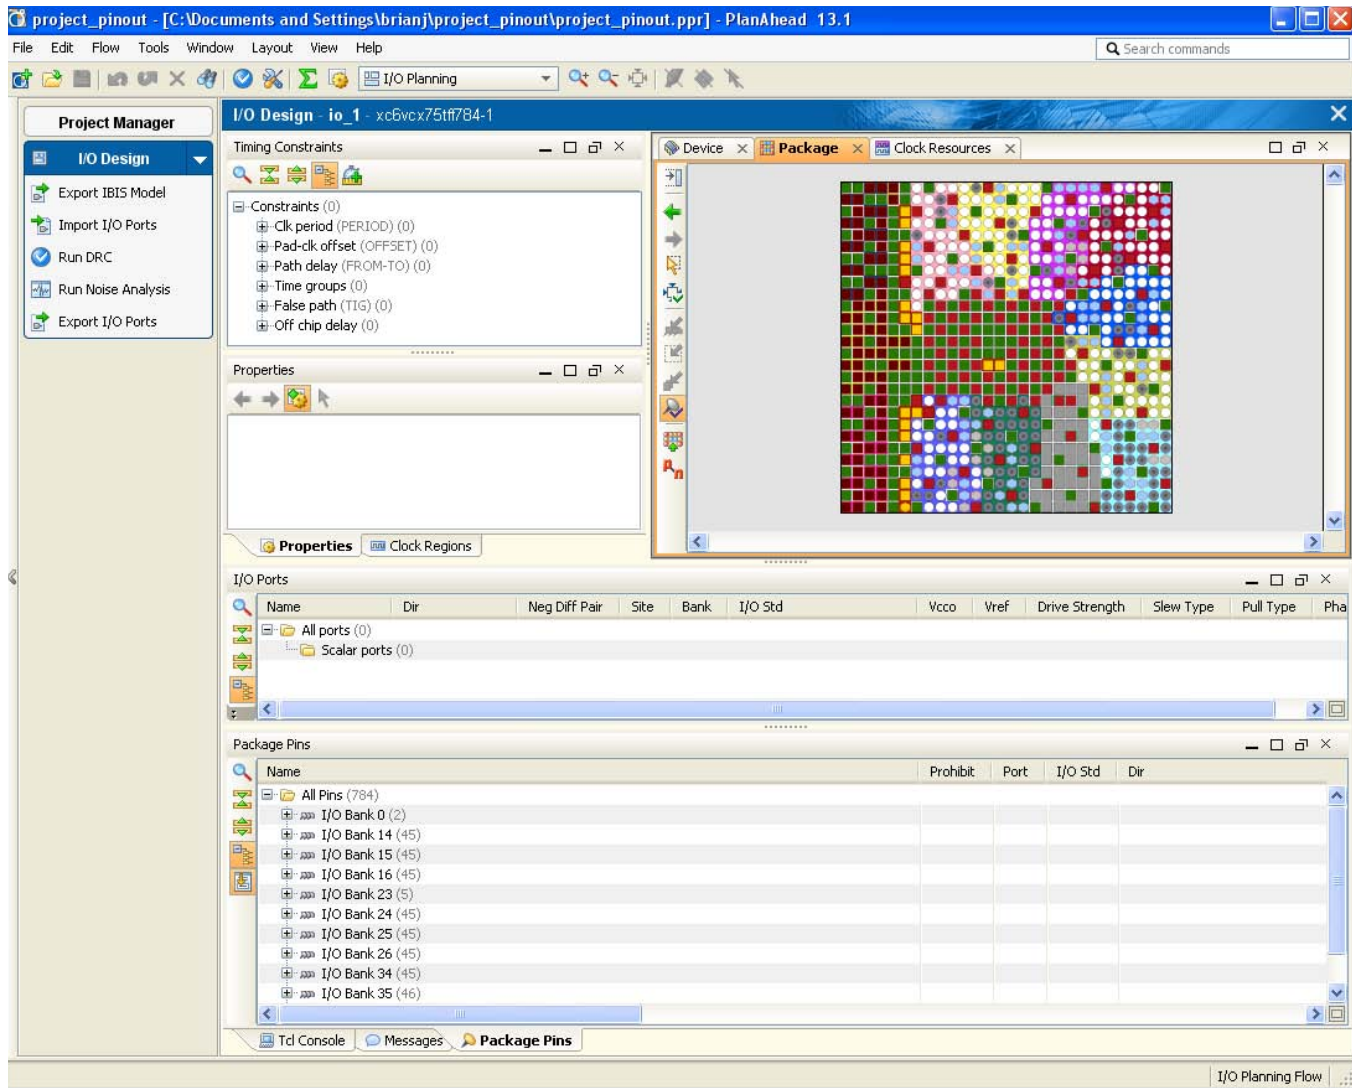

Figure 5: I/O Pin Planning Environment
15. Click **Finish** to create the project, as shown in Figure 5.